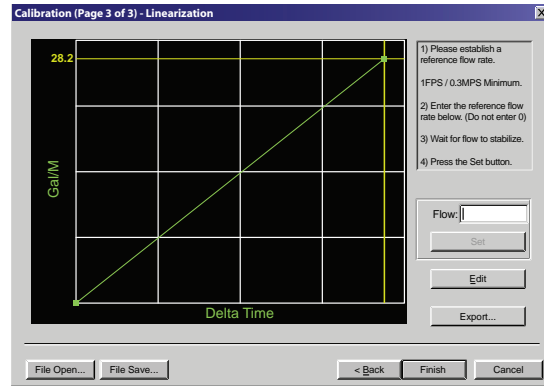

Figure 15: Calibration points editor
3. On the pop-up screen, click **Next** twice to get to Page 3 of 3. See Figure 15.
9. The display will return to Page 3 of 3. Click **Finish**. See Figure 15.